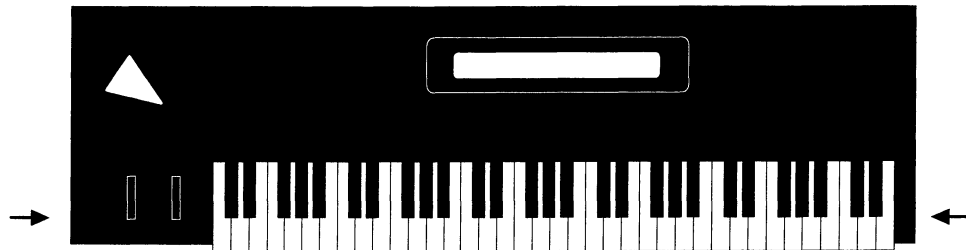

Figure 4 - MR-61 Opening Locations
4. With both hands solidly gripping the unit, carefully turn the MR-61 right-side up, and grasp it firmly at the locations shown in figure 4: